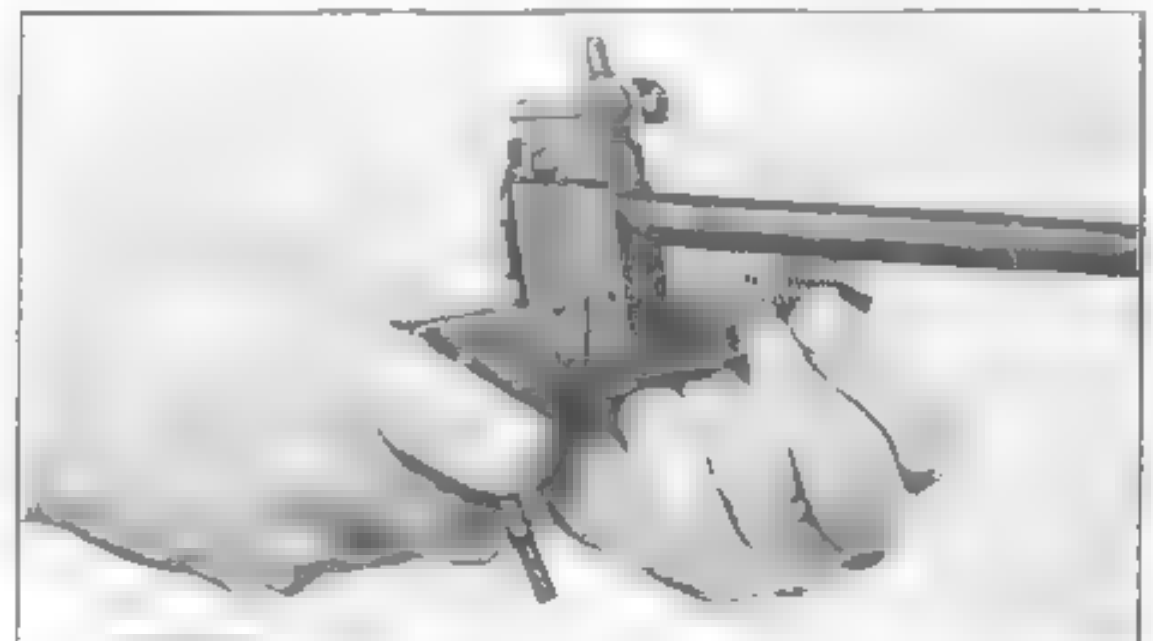

Fig. 121
Remove the spring and the spring plunger (fig. 121).
- Replace the spring and spring plunger (fig. 121).